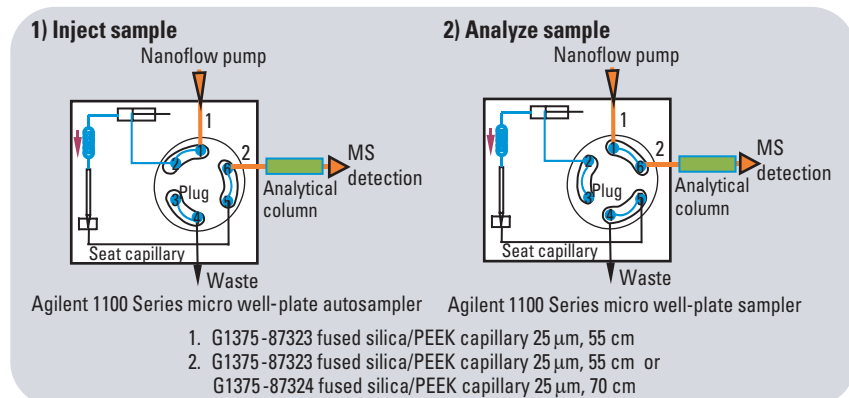

Figure 12
B.1. 1D Direct LC method (figure 12)